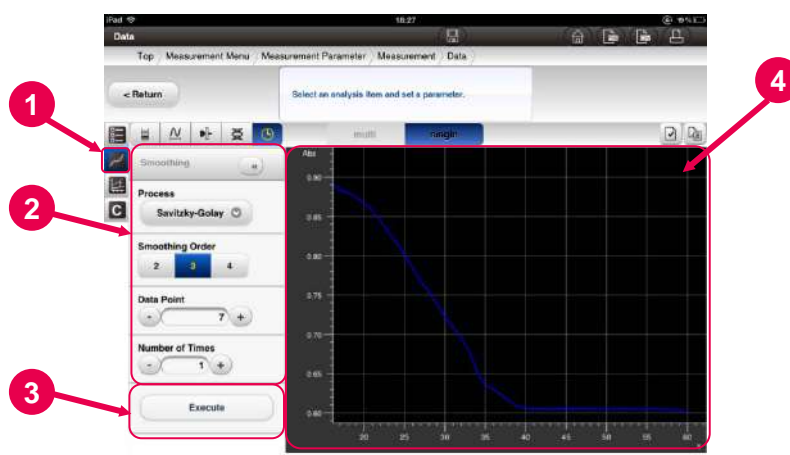

Fig. 5-65 Smoothing Setting Parameters Window
- (1) To specify smoothing settings, press the [Smoothing Tool Icon] button .
- (2) The smoothing setting parameters (Fig. 5-65) are displayed. See Table 5-23 for the smoothing setting parameters.
- (3) Set up the items and press the [Execute] button.
- (4) The results of the data processing are displayed.